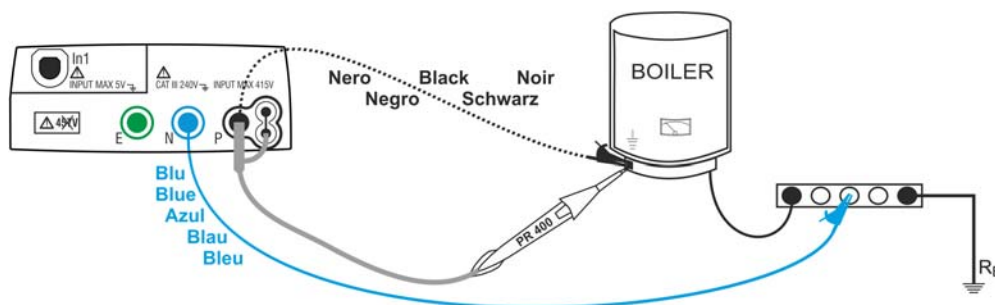

Fig. 6: Instrument connection by means of single cables and remote probe
7. Connect the test leads to the ends of the conductor to be tested as in Fig. 6.